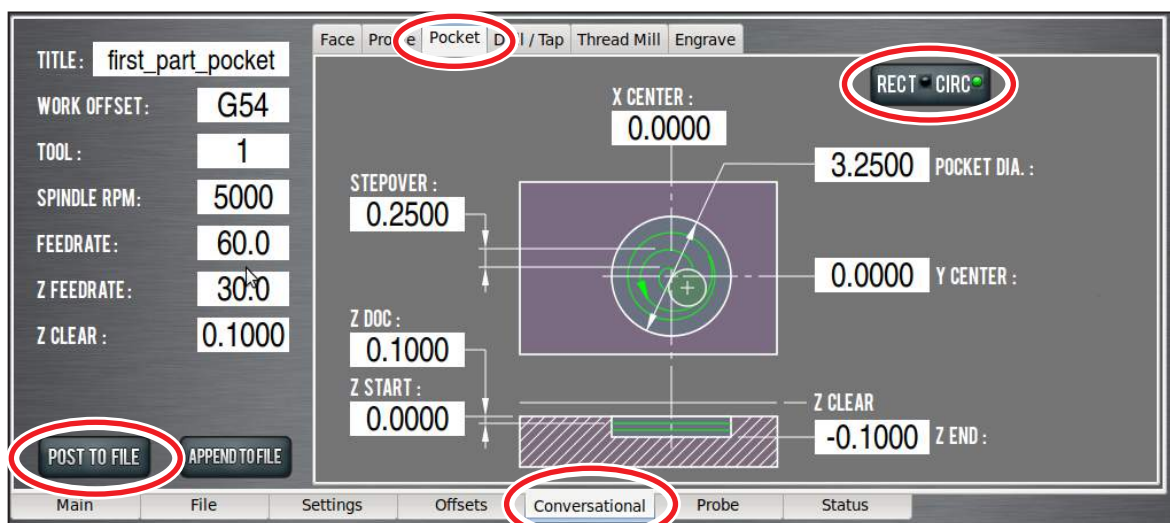
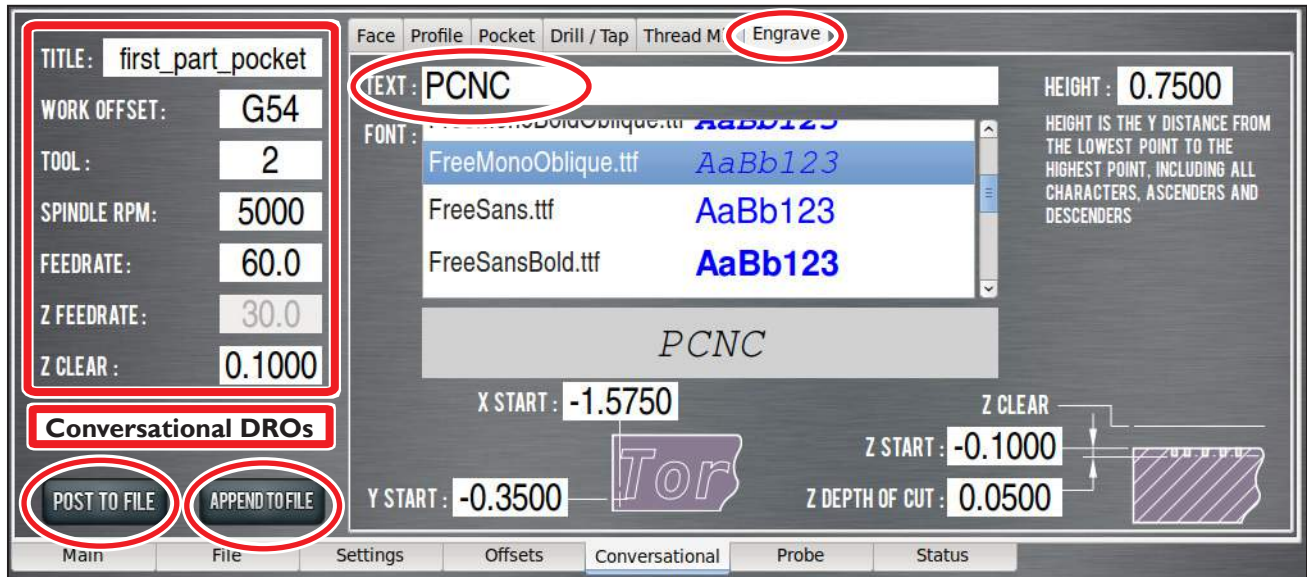

Figure 5.10
Figure 5.13
To write code for the first operation, click the *Conversational* tab (see **Figure 5.10**). The *Conversational* screen is divided into two sections: parameters common to most operations are displayed on the left and operation-specific parameters (including part geometry) are displayed on the right.
Click the *Pocket* tab to bring up the pocketing screen. Click the *Rect/Circ* button to bring up the circular pocket screen (see **Figure 5.10**). Use this screen to generate code to create a shallow pocket (0.1000" deep and 3.250" in diameter). The conversational DRO fields should be self-explanatory and are covered in detail in chapter 6, *PathPilot Interface*, but for now, enter the values seen in **Figure 5.10**.
- After the values from **Figure 5.10** are entered, click the *Post to File* button to save the G-code.
Go back to the *Conversational* screen and click on the *Engrave* tab (see **Figure 5.10**) and the Engrave screen opens (see **Figure 5.13**). Enter the values shown in **Figure 5.13**, *Conversational DROs*. Make sure to enter *PCNC* in the text field.
1. Select the *FreeMonoOblique.ttf* font (see **Figure 5.13**) and change the *Tool* DRO to 2 for the engraving operation.
2. Press the *Append to File* button (see **Figure 5.13**). A file chooser dialog opens that allows you to select the file to which you want to add the engraving G-code.